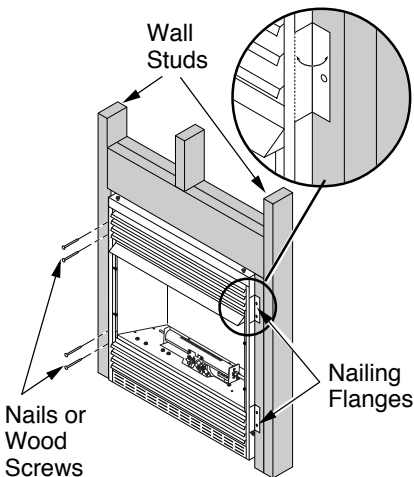

Figure 9 - Attaching Fireplace to Wall Studs
7. Bend four nailing flanges on outer casing with pliers (see Figure 9).